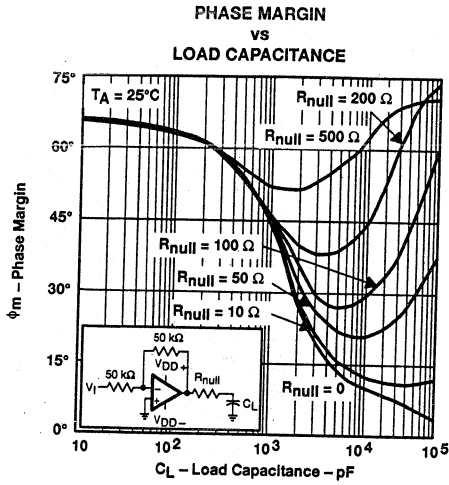
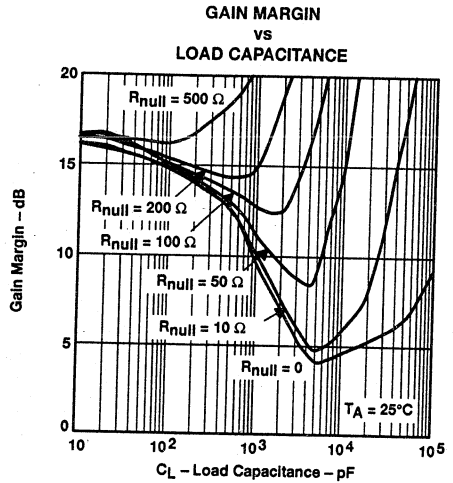
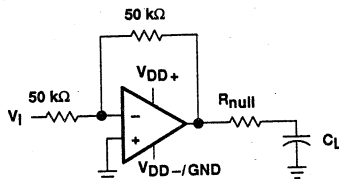

Figure 52
Figure 53
Figure 56. Series-Resistance Circuit
The TLC2252 is designed to drive larger capacitive loads than most CMOS operational amplifiers. Figure 52 and Figure 53 illustrate its ability to drive loads up to 1000 pF while maintaining good gain and phase margins ($R_{null} = 0$).
A smaller series resistor (R_{null}) at the output of the device (see Figure 56) improves the gain and phase margins when driving large capacitive loads. Figure 52 and Figure 53 show the effects of adding series resistances of 10 Ω , 50 Ω , 100 Ω , 200 Ω , and 500 Ω . The addition of this series resistor has two effects: the first is that it adds a zero to the transfer function and the second is that it reduces the frequency of the pole associated with the output load in the transfer function.
Using Figure 56, with equation (1) enables the designer to choose the appropriate output series resistance to optimize the design of circuits driving large capacitance loads.